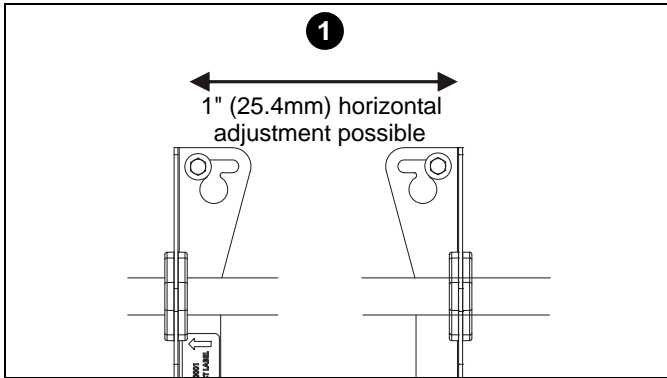

Figure 10
1. The mount wall brackets may be adjusted side to side at the point of attachment. (See Figure 10)